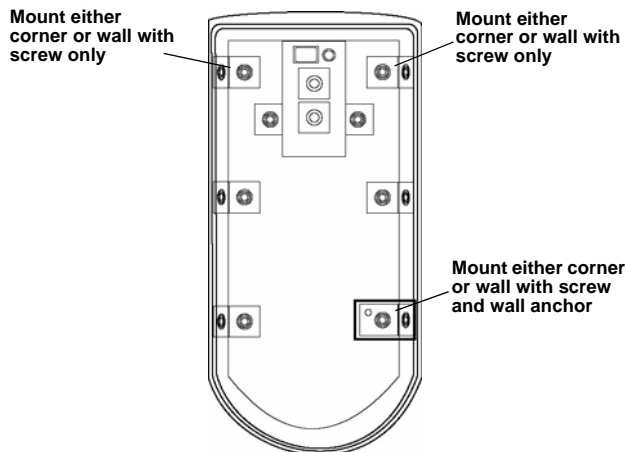

Figure 3 EN1260 mounting back plate
a. If using the wall tamper function for increased security, mount the housing back plate per Figure 3, ensuring the tamper switch is depressed..